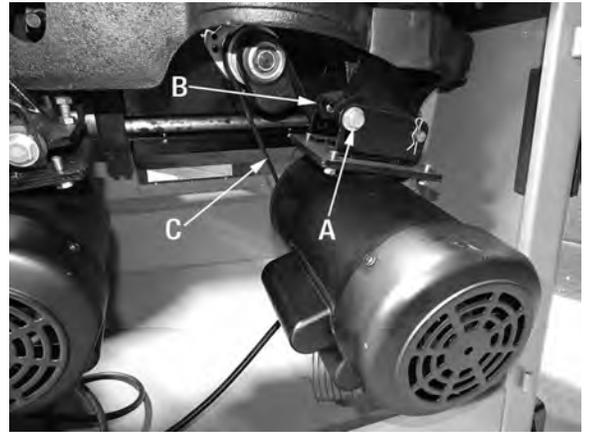

FIGURE 63
3. Loosen but do not remove hex. bolts (A & B) Fig.63.
4. Pivot the motor upwards to release tension on the belt, then remove belt (C).